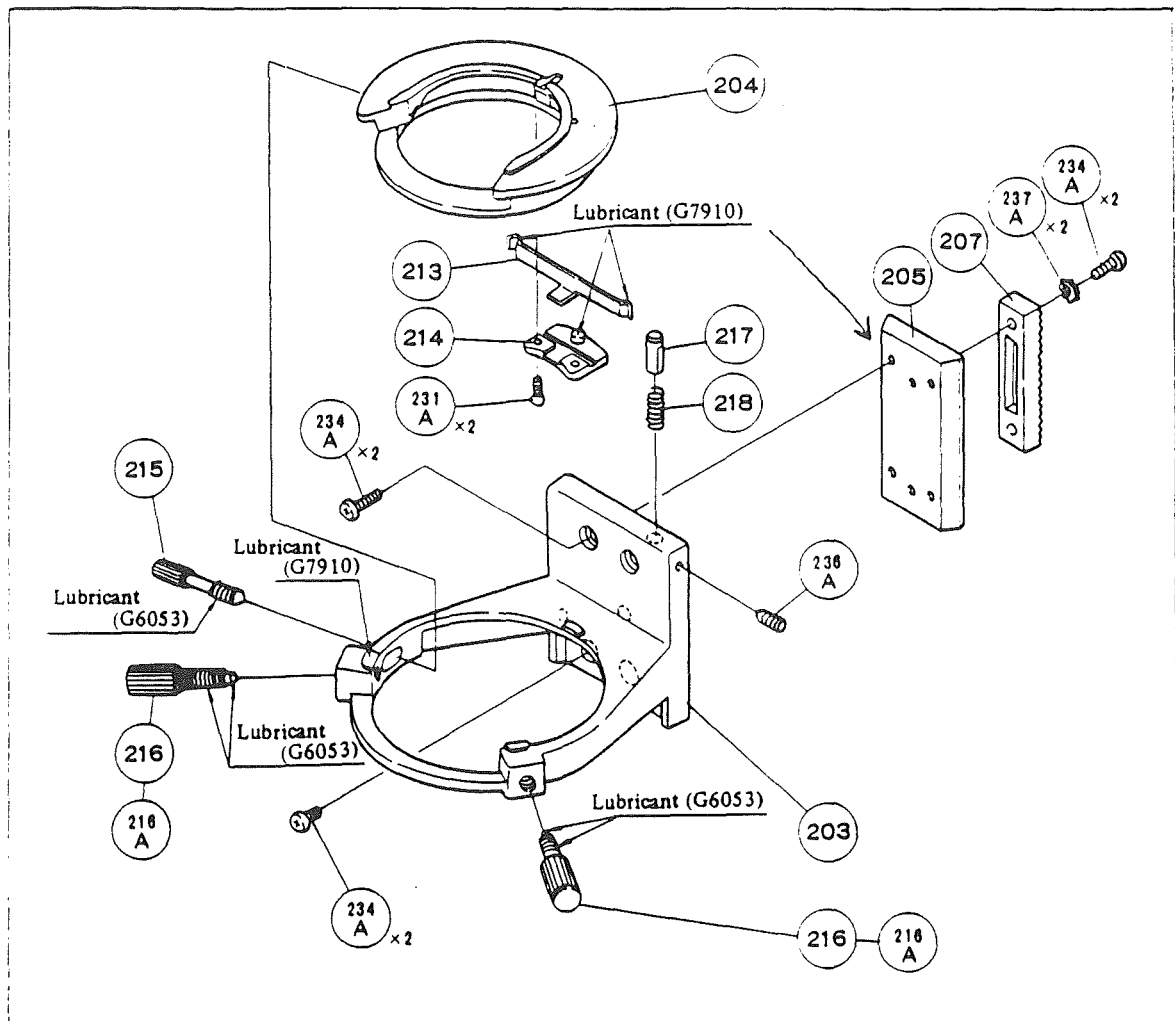

Fig. 27
- 6) If stopper pin ( 217 ) has once been separated, because the top end is liable to be damaged, use the new one, which will facilitate reassembling with high accuracy. (Fig. 27).